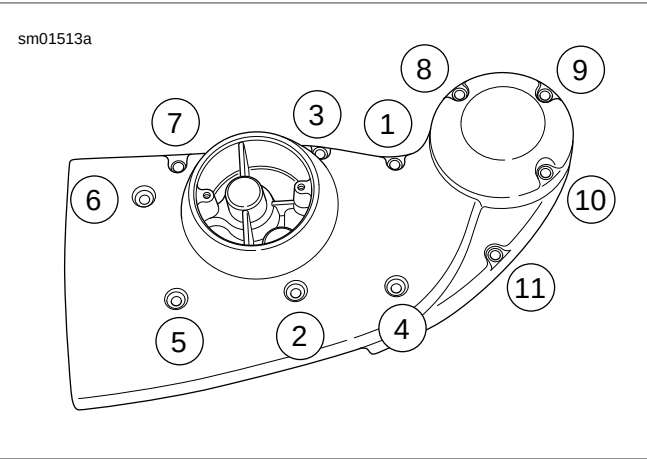

Figure 3-163. Gearcase Cover Mounting Screw Torque Sequence
14. See Figure 3-163. Tighten in sequence to 90-120 in-lbs (10.2-13.6 Nm).